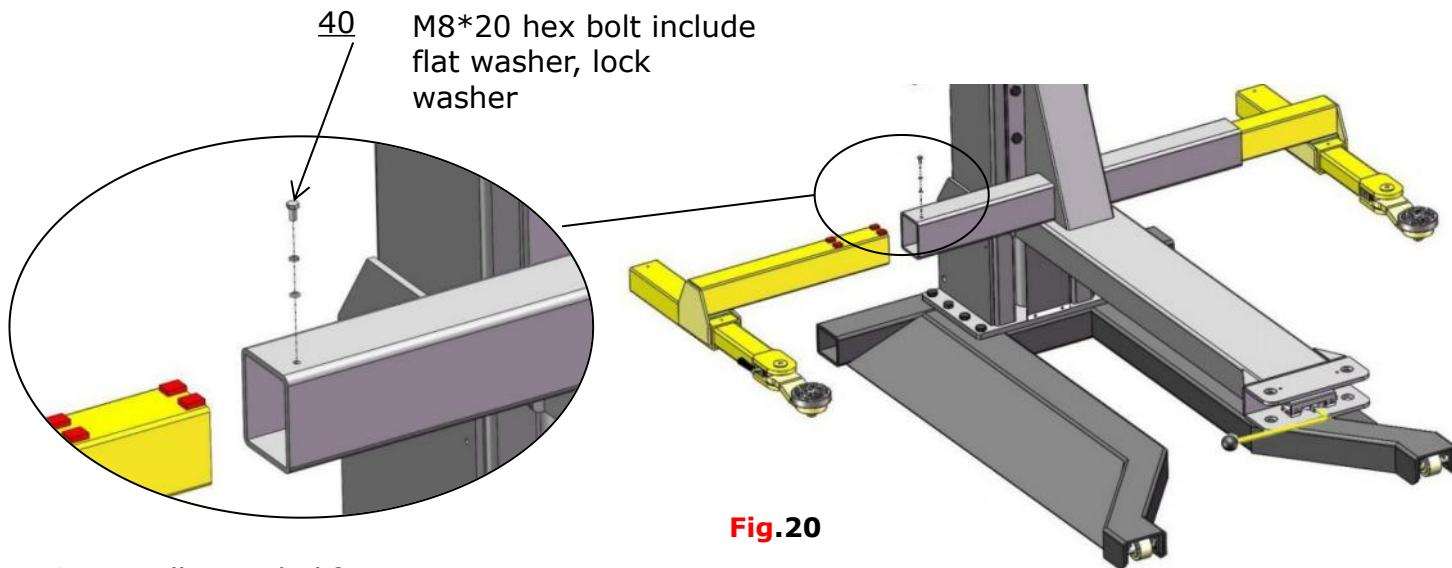

Fig.20
1. Install inside lifting arms. see Fig. 20